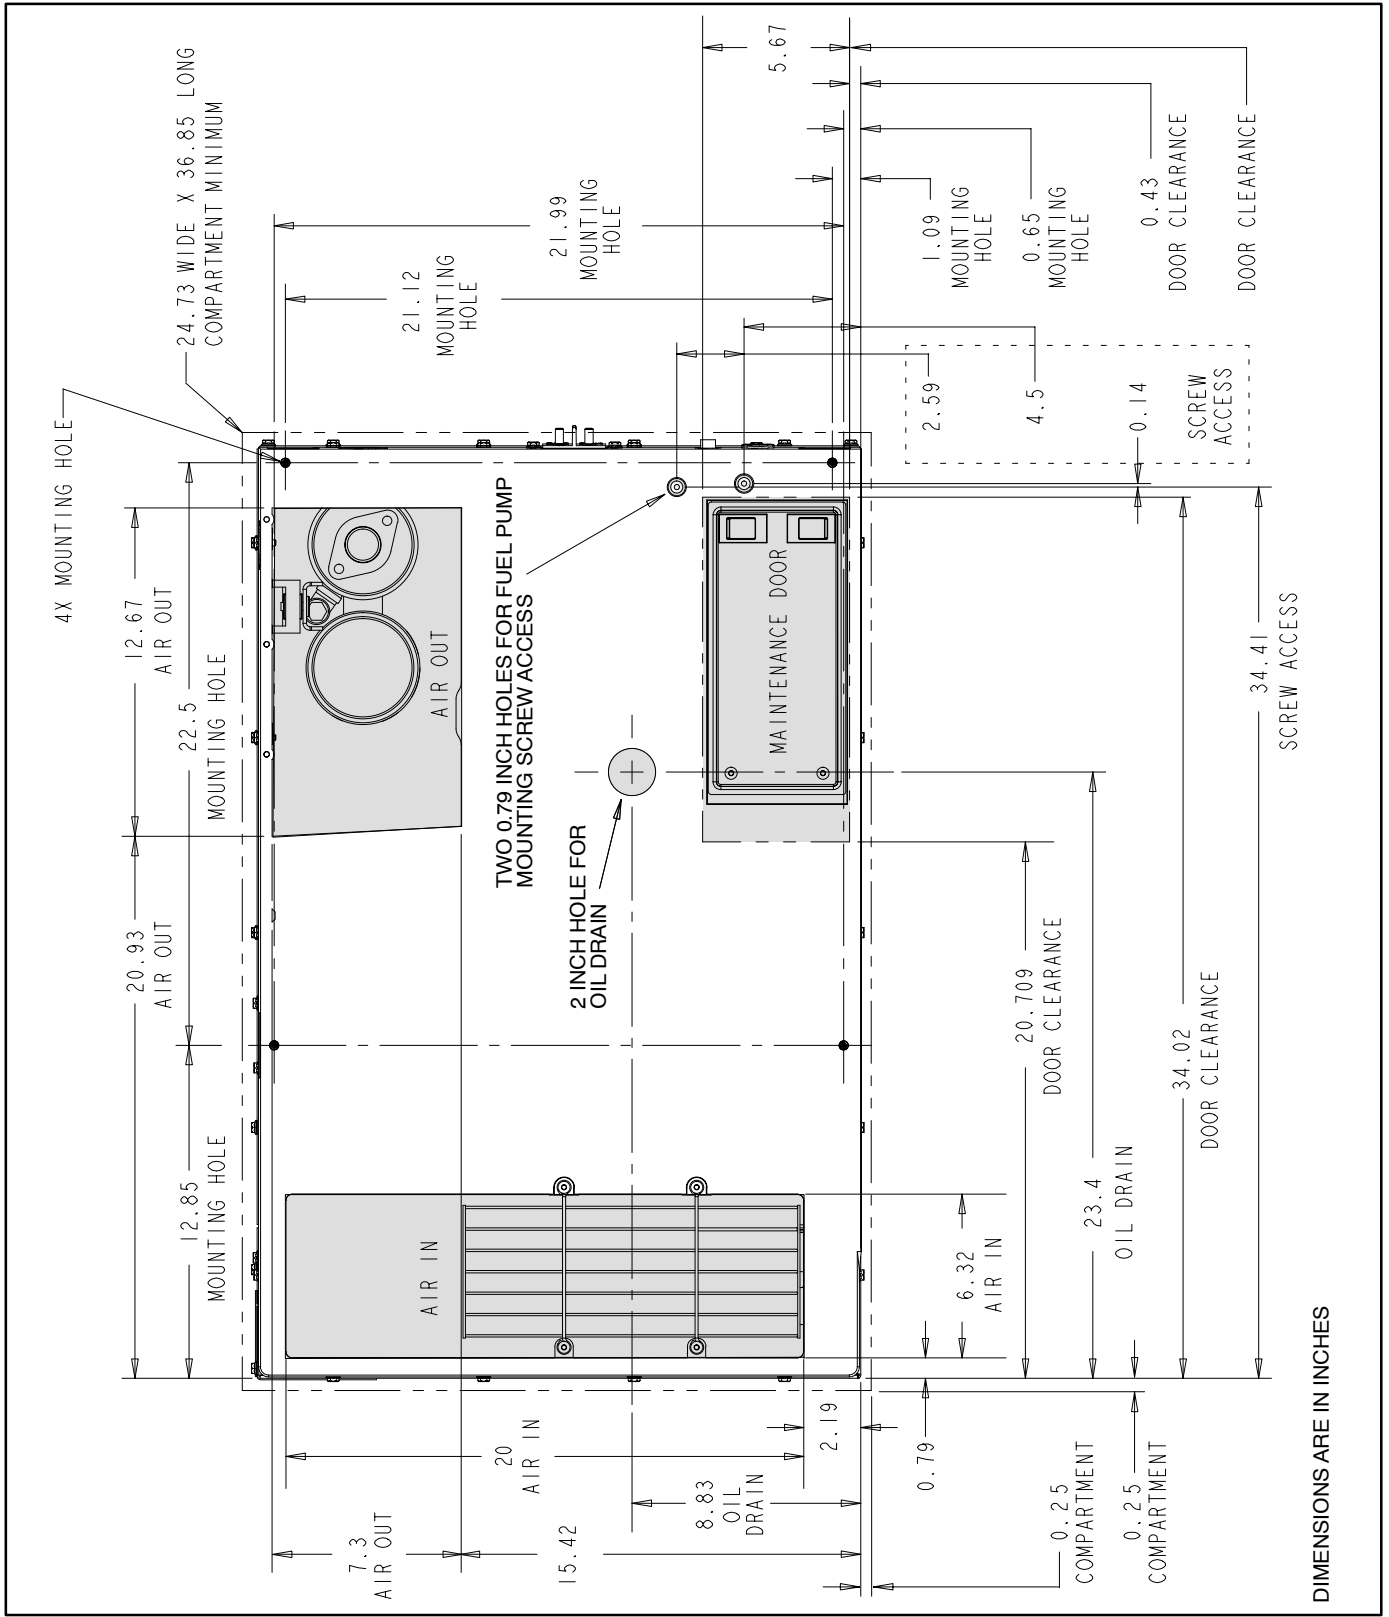

FIGURE 2. FLOOR PLAN
4. Provide at least 0.5 inch (12.7 mm) clearance to the top and 0.25 inch (6.4 mm) clearance to the sides of the genset. See Figure 2. At these
6. Provide cutout openings in a compartment floor that are at least as large as the cooling air inlet and outlet openings in the bottom of the genset (shaded areas in Figure 2). **Frame cross members must NOT cut across the openings.**
7. Make sure that vehicle components located below the genset, including the genset exhaust tailpipe, will not interfere with draining coolant, engine oil and removing the oil and fuel filters. The maintenance door in the base of the genset must be able to swing open a full 90 degrees without interference (Models HDKAJ and HDKAK). (See shaded area in Figure 2 for cutout area.)
8. Provide access for removing the two fuel pump mounting screws so that the genset does not have to be removed to replace a fuel pump. See Figure 2.